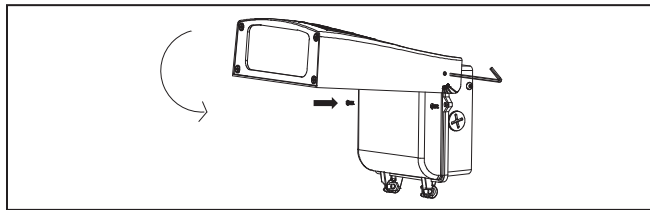

Figure 7.
9. Close and secure the driver box, by screwing back the driver box screws. Torque the screws to a maximum of 13 in-lbs. Adjust back the luminaire head to downward position. (Figure 7)